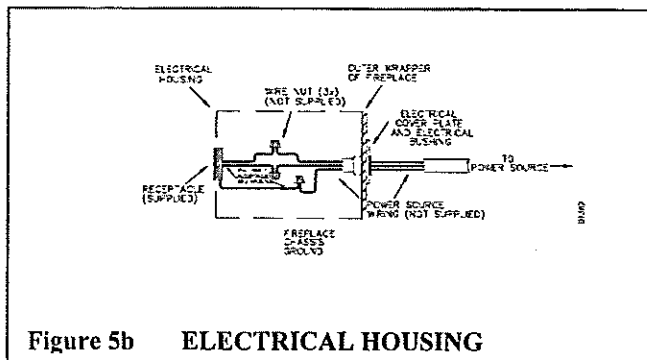

Figure 5b ELECTRICAL HOUSING
- Slide all wiring connections in the electrical housing as shown in figure 5b.